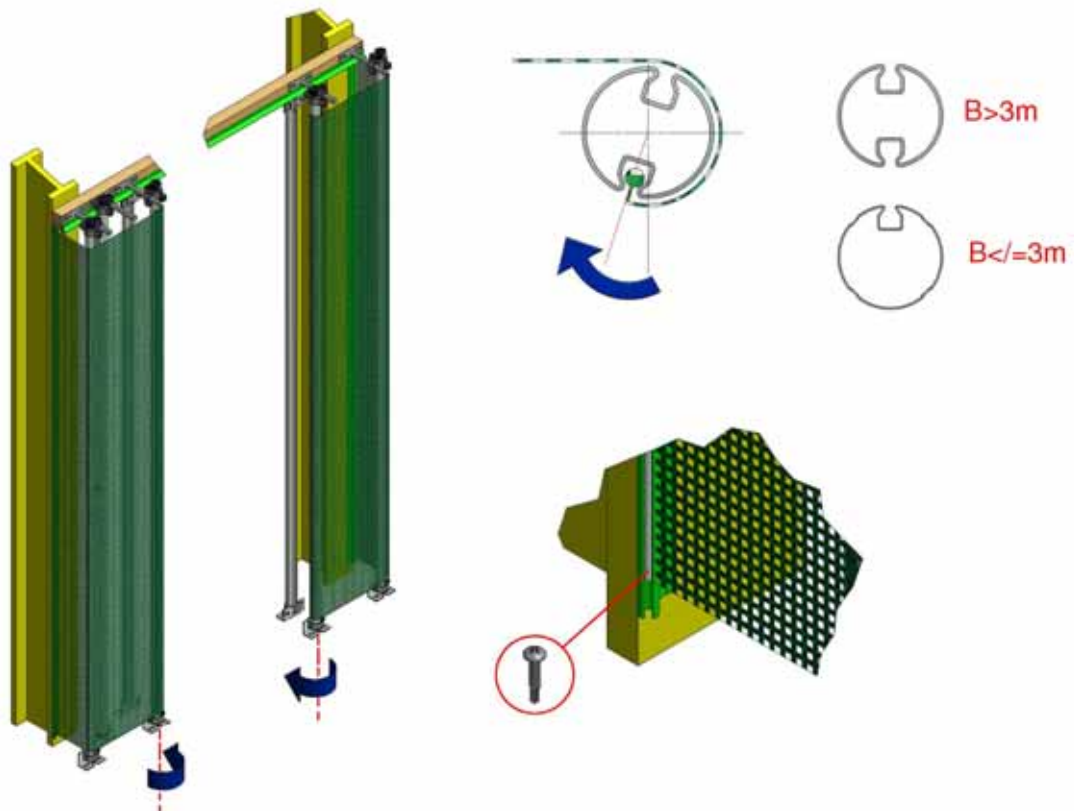

Figure 22, End Covers
4.10 Having finished the set up of the electric Motor, including the limit switches, the outer End Covers (V1) are to be installed, Figure 22. Slide the one kador edge of the Cover into the vertical profile (F1) on the building and the other into the flute of the Control Tube. The covers are tensioned vertically by hand and fixed using the same screwing method as used for the Curtain. By rotating the vertical tube that the Cover is attached to, transverse tension is created. Once tight the vertical tube can be clamped using the Crossover Clamps (G2) supplied.